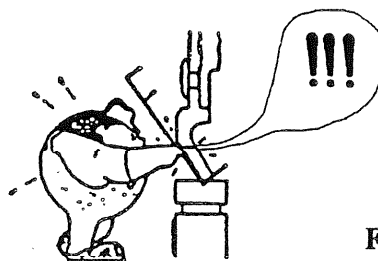

Figure 2.13
- Release the part to be bent as soon as it is gripped between the tools (Fig. 2.13).